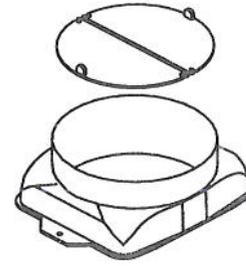

Figure 3
- Chimney Outlet Component with Return Preventive System (Fig. 3).